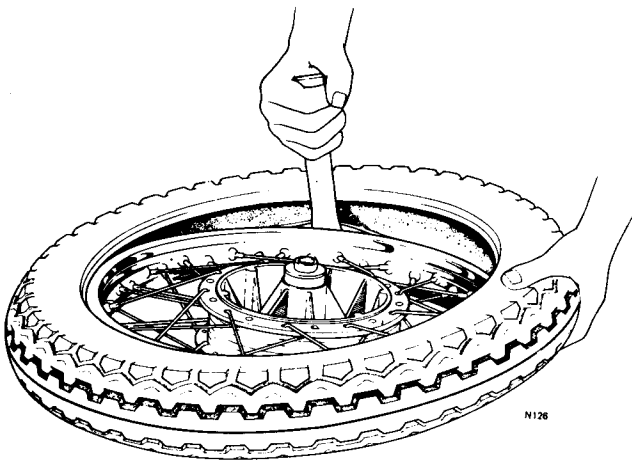

Fig. H22 First bead being levered into the rim
- 6 Pressing this side of the tire into the rim well, and working from the valve, press the first beading over the rim by hand pressure and lever the last few inches into position as in *Fig. H22*. Take special care that the inner tube is not nipped during this operation.
6 Pressing this side of the tire into the rim well, and working from the valve, press the first bead over the rim by hand pressure and lever the last few inches into position as in *Fig. H22*. Take special care that the inner tube is not nipped during this operation.